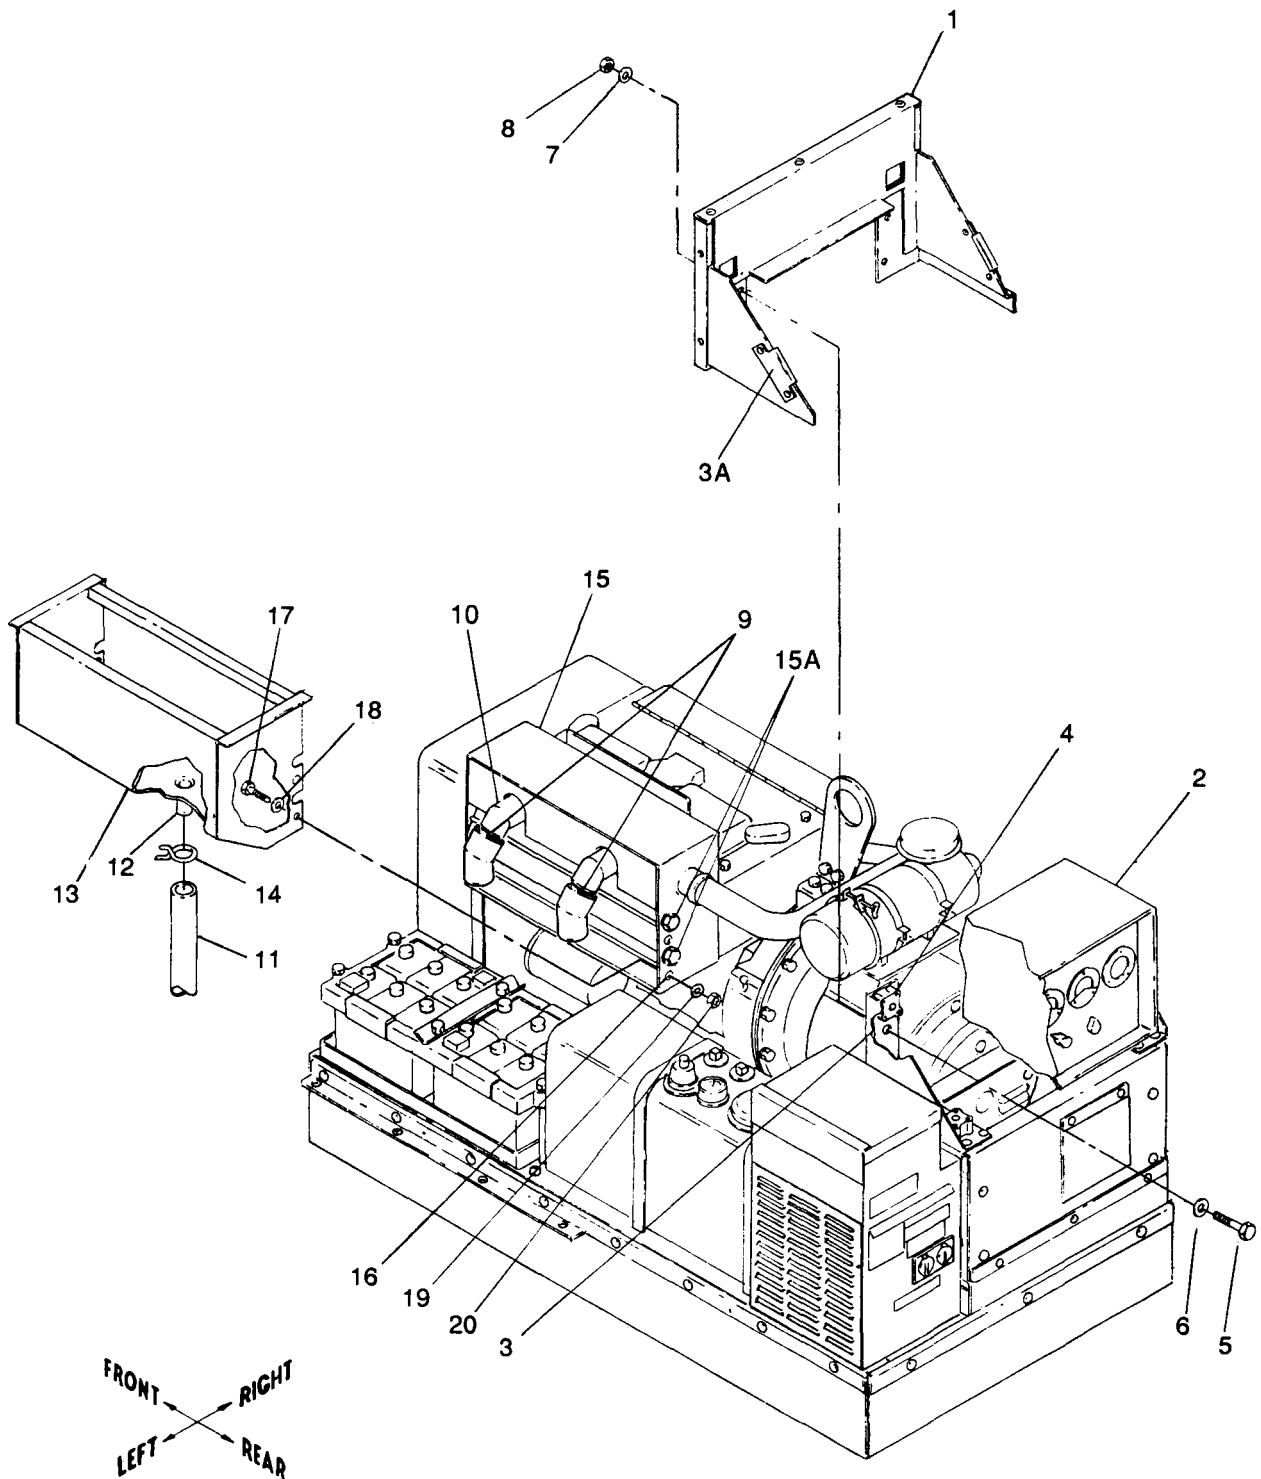

Figure 10-4. Installation of Rear Closure Assembly and Exhaust Plenum Assembly
(2) Refer to figure 10-4 and locate rear closure assembly (1) behind mounting brackets (3). Seat clips (3A) of rear closure assembly (1) over mounting brackets (3), so that rear closure assembly (1) is positioned over vibration mount hardware. When positioned correctly, the rear closure assembly (1) is 1/4 inch higher than top of control cubicle (2). Using rear closure assembly (1) as template, mark and drill four 5/16 inch holes in mounting brackets (3).
(3) Cut a 23 in. length and a 14 in. length of adhesive backed teflon tape (as listed in Table 10-1, item 5). Apply adhesive backed teflon tape to a clean top edge (edge with three holes) and right edge (edge with two holes which will contact right panel assembly) of rear closure assembly (1). Use hand pressure to remove air bubbles. Clear tape from holes.
(4) Install rear closure assembly (1) to control cubicle support (3) with four screws (5), eight washers (6 and 7) and four locknuts (8) (as listed in Table 10-1, item 5).
(5) Torque screws (5) to 16  $\pm$ 2 ft-lbs dry.
(6) Refer to Operator and Organizational Maintenance Manual, paragraph 3-18, and install air cleaner assembly removed in step e. (1).
(1) Refer to figure 10-4 and install exhaust elbows (9) (as listed in Table 10-1, item 7) to generator exhaust (10). Point elbow openings downward (exhaust down).
(2) Install hose (11) over sleeve (12) at bottom of exhaust plenum (13). Install clamp (14) over hose (11) and sleeve (12).
(3) Install exhaust plenum assembly (13) over exhaust shutter assembly (15) until rear upper channel of plenum is flush with exhaust shutter assembly (15). Screws (15A) in exhaust shutter assembly (15) fit into plenum slots. (There will be 1-7/8 inch over-lap.) Using exhaust plenum assembly (13) as template, mark mounting holes (16) and drill four 5/16 inch holes in exhaust shutter assembly (15).